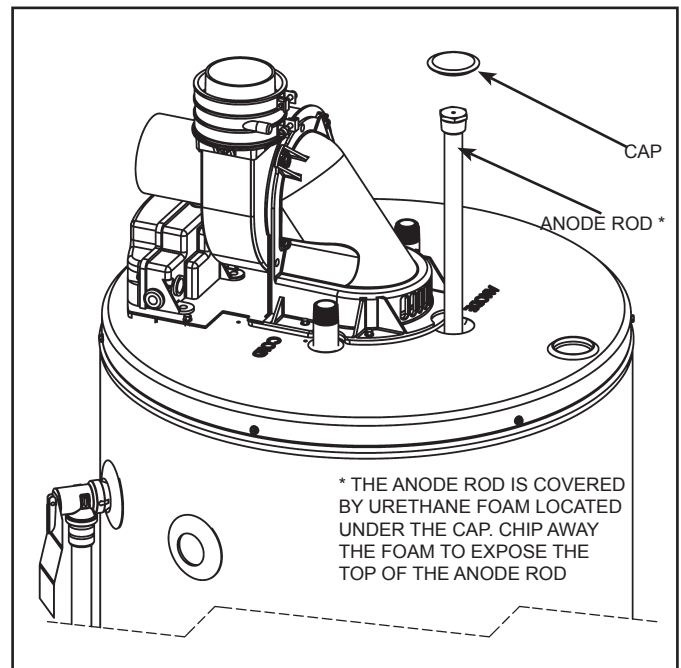

Figure 4. Removing the Anode Cap and Anode Rod
6. Remove and retain the anode cap on top of the heater and remove and retain just enough insulation so you can access to the anode head. See *Figure 4*. Keep in a safe place for reinstallation later.
7. Remove the anode rod by using a ratchet and a 1-1/16" socket turning counter-clockwise. See *Figure 4*.